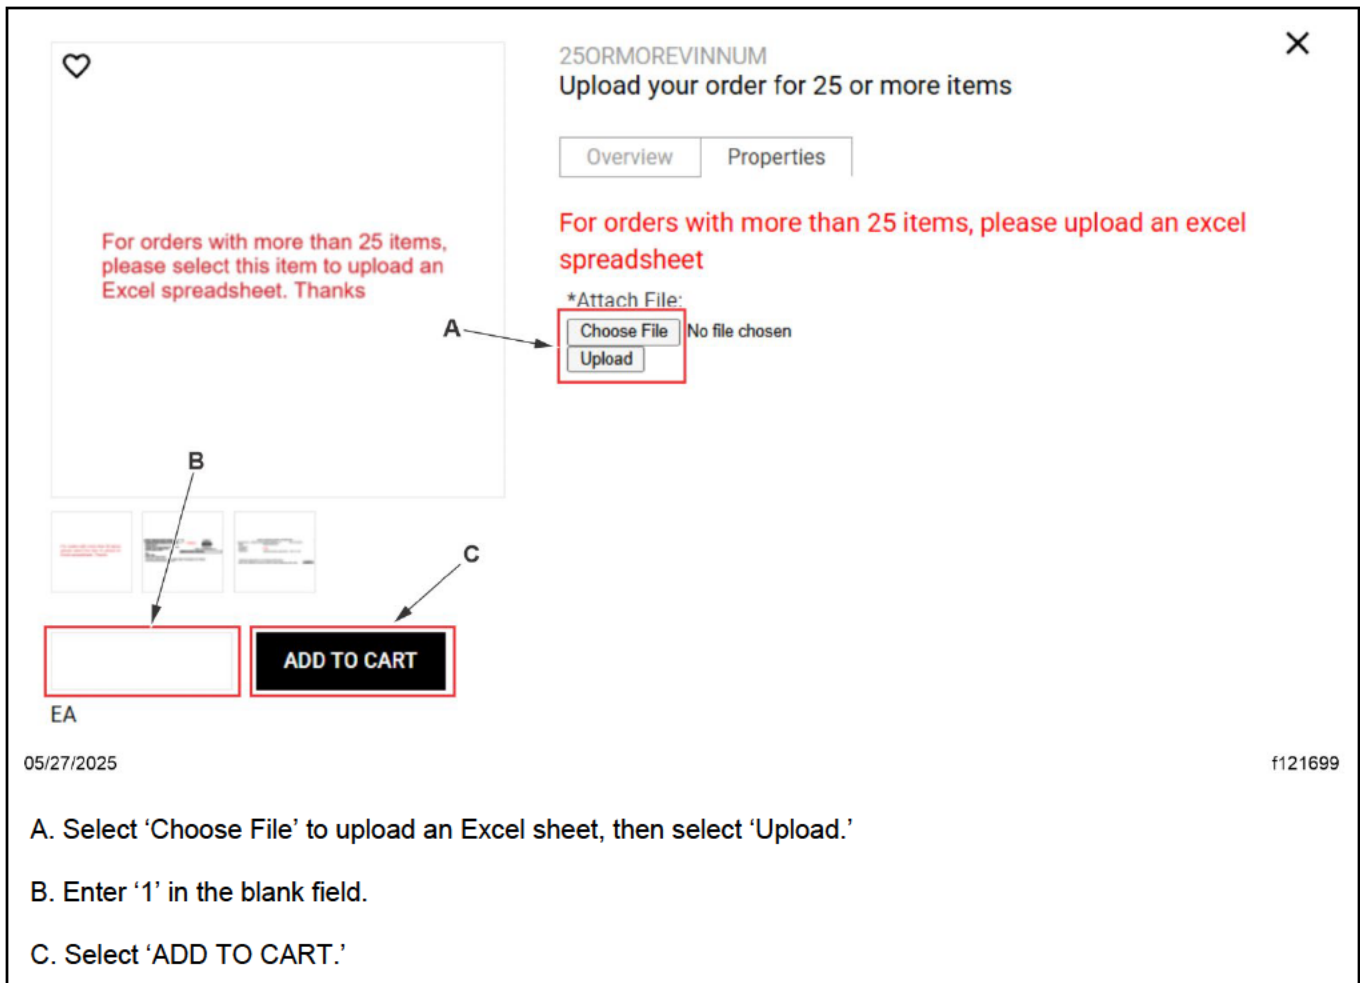

Fig. 6, Ordering for 25 or More VINs
- 7.2. Select 'Choose File' to upload an Excel sheet, then select 'Upload.' See Fig. 6.
- 7.3. Enter '1' in the field on the bottom-left of the window, then select 'ADD TO CART.' See Fig. 6.